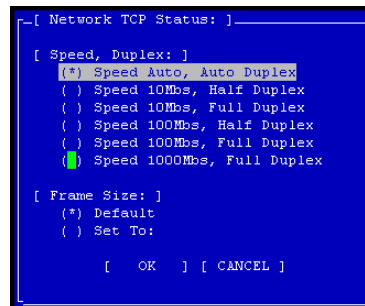

Figure 227. Setting the Speed, Duplex, and Frame Size
2. Tab to select the network interface for which you want to set the TCP speed and duplex and press Enter. The Network TCP Status window opens, shown in Figure 227.